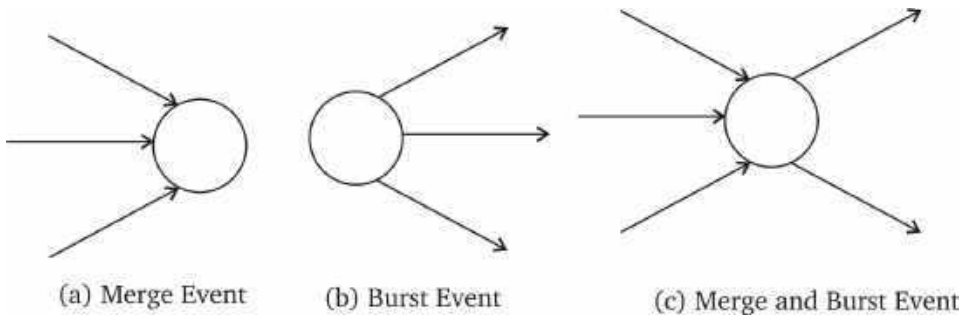

Fig. 9.2
- (i) **Merge Event** : An event which represents the end (or head) of more than one activity is called a *merge event* [see fig. 9.2 (a)].
- (ii) **Burst Event** : An event which represents the beginning (or tail) of more than one activity is called a *burst event* [see fig. 9.2 (b)].
- (iii) **Merge and Burst Event** : An event which represents the beginning (or tail) of some activity (or activities) and is also the end (head) of some activity (or activities) is called a *merge and burst event* [see fig. 9.2 (c)].